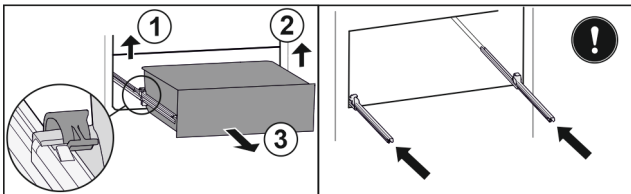

Fig. 59
- ▶ Lift left clamp and simultaneously pull drawer forwards on the left. Fig. 59 (1)
- ▶ Lift right clamp and simultaneously pull drawer forwards on the right. Fig. 59 (2)
- ▶ Remove drawer to the front. Fig. 59 (3)